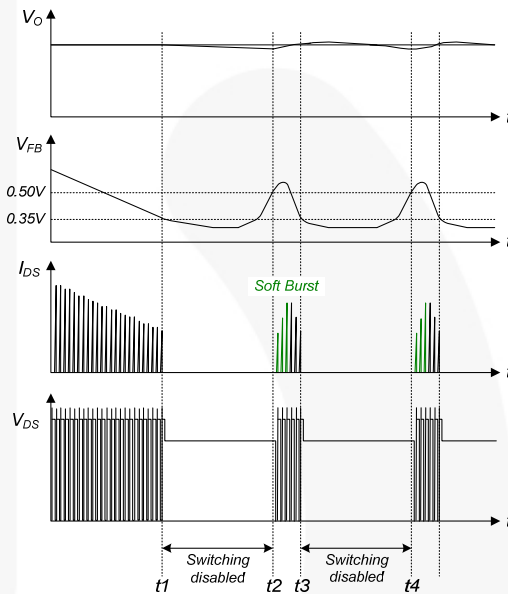

**Figure 22. Output-Short Protection**
**4.3. Output-Short Protection (OSP):** If the output is shorted, steep current with extremely high di/dt can flow through the SenseFET during the minimum turn-on time. Such a steep current brings high-voltage stress on the drain of the SenseFET when turned off. OSP protects the device from this abnormal condition. It is comprised of detecting  $V_{FB}$  and SenseFET turn-on time. When the  $V_{FB}$  is higher than 2.0V and the SenseFET turn-on time is lower than  $1.0\mu s$ , this condition is recognized as an abnormal error and PWM switching shuts down until  $V_{CC}$  reaches  $V_{START}$  again. An abnormal condition output short is shown in Figure 22.